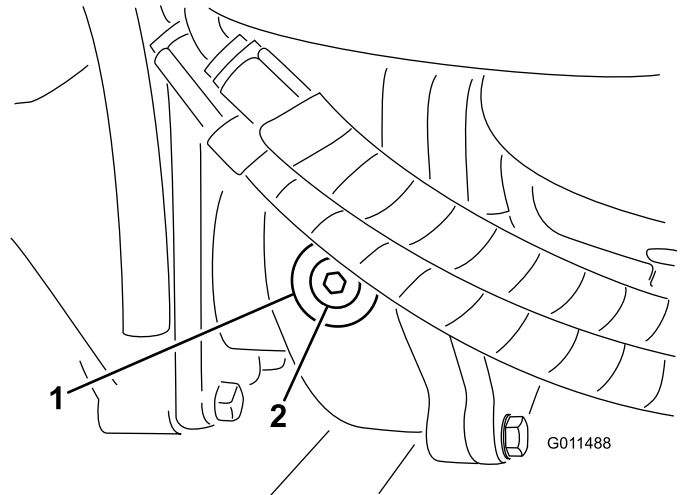

Figure 65
- Remove the check/fill plug from the left side of the gearbox and ensure that lubricant is up to the bottom of the hole (Figure 65).